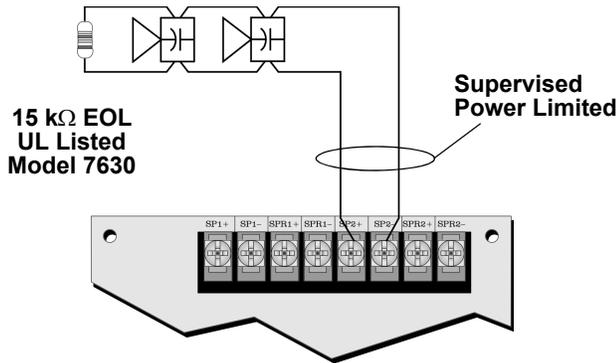

Figure 5: Class B (Style Y) Speaker Configuration
3. To wire speakers to the control panel using Class B (Style Y) supervision see Figure 5.